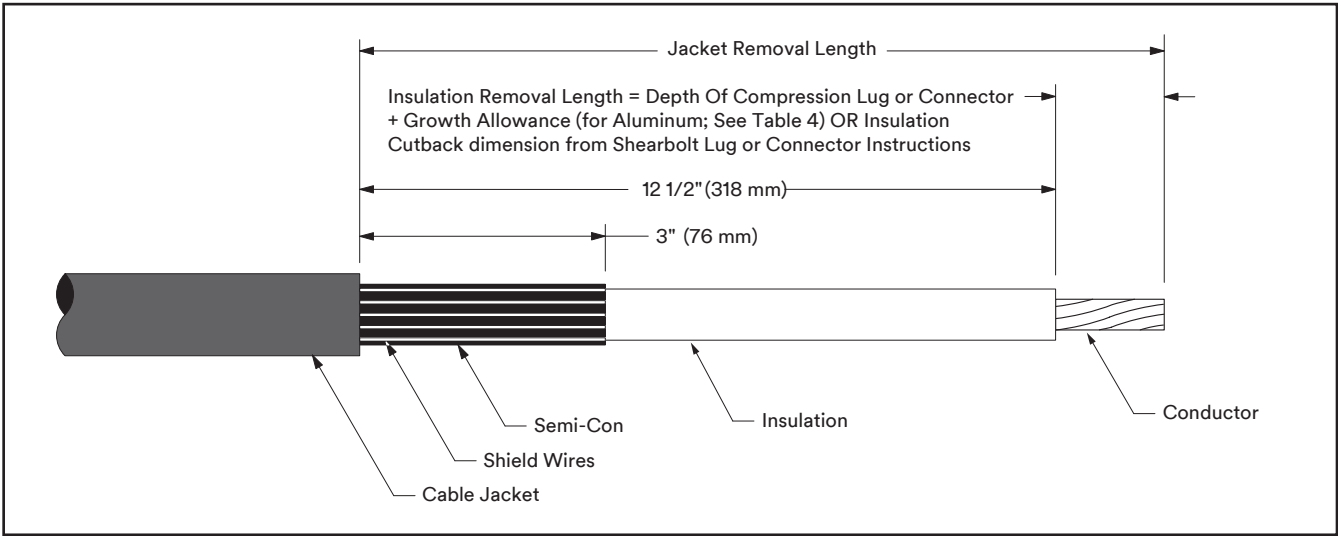

Figure 9
- 7.2 Prepare cable using dimensions shown in Figure 9. **BE SURE TO ALLOW FOR DEPTH OF TERMINAL LUG.**